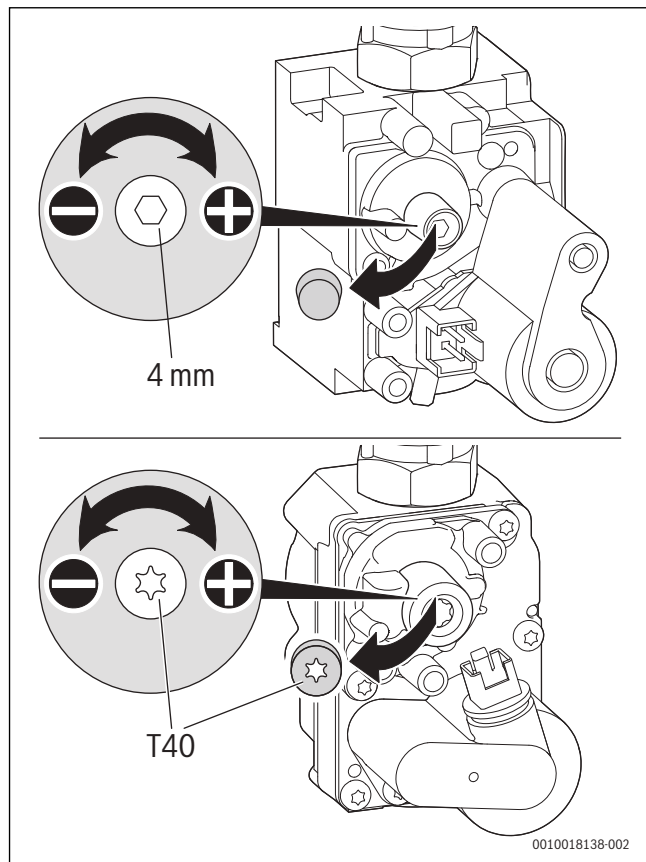

Fig. 93 Setting the CO2 content (above: SIT valve, below: Honeywell valve)
- ▶ Remove the seal from the adjusting screw of the air/gas ratio control valve (only air/gas ratio control valve is shown in the below Fig. 93) and set the CO2 content for minimum rated output.